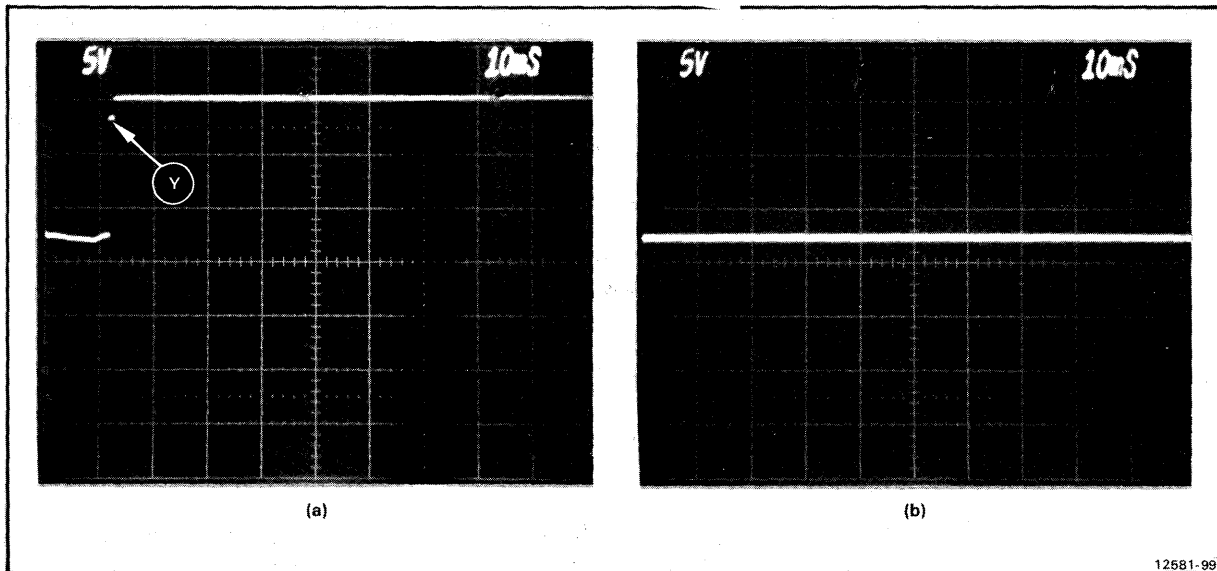

Fig. 12-6. Waveforms at Shutdown testpoint.
8. Set the scope's vertical sensitivity to 5 V/cm. Connect a probe from the vertical input of the scope to TP6046. The two traces shown in Fig. 12-6 illustrate the range of expected waveforms. If the waveform is like Fig. 12-6b, reduce the sweep speed until event Y (shown in Fig. 12-6a) is visible. Note the position of event Y on the screen; event Y occurs when the supply shuts down.